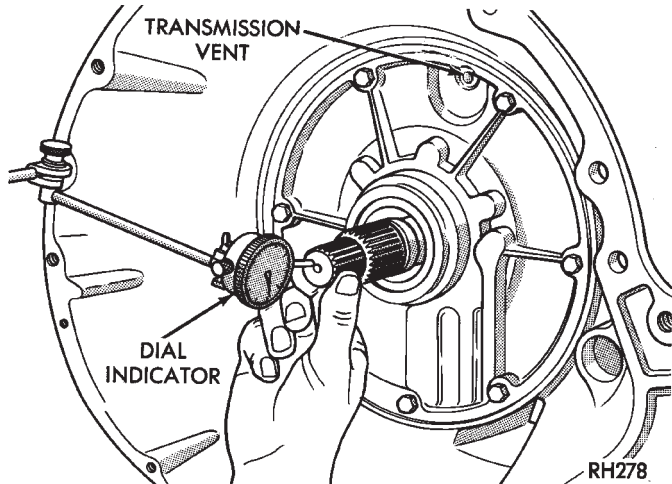

Fig. 113 Checking Input Shaft End Play
(46) Measure input shaft end play (Fig. 113).